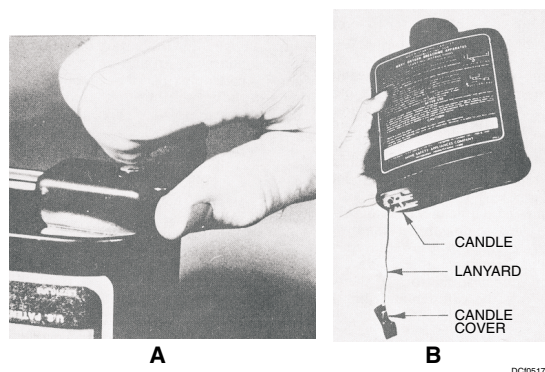

Figure 5-17. Removing the candle cover, views (A) and (B).
b. Remove the canister candle cover by rotating the swivel plate 180°. Push it down toward the center of the canister, as shown in view A of figure 5-17.
Leave the cover dangling by the lanyard, as shown in view B of figure 5-17. When you remove the candle cover, do NOT pull the lanyard so that the cotter pin is removed. The removal of the cotter pin fires the candle, and the canister starts generating oxygen. If this happens while the copper-foil seal is intact, internal pressure in the canister will build up. This pressure will cause the copper foil seal or the canister seam to rupture.